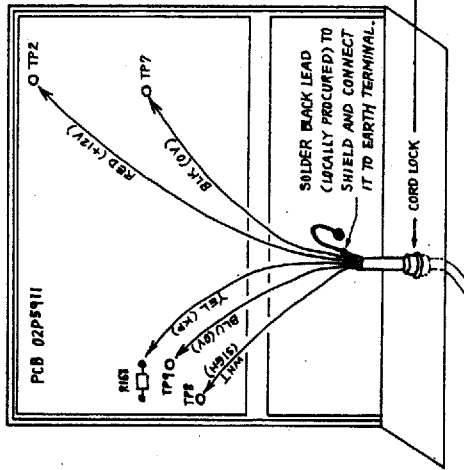

Fig. 5 FE-808 Recorder
- Insert the cord lock into the spare hole on the bottom of the recorder as shown in Fig. 5.
- Solder the core leads to signal hook-up points inside the equipment. (Fig. 5)